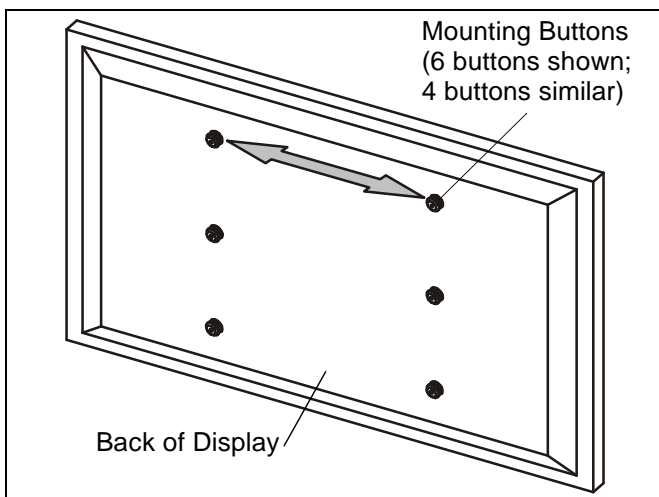

Figure 8
1. Determine *horizontal* dimension between mounting buttons on back of display (or interface bracket, if required). (See Figure 8)